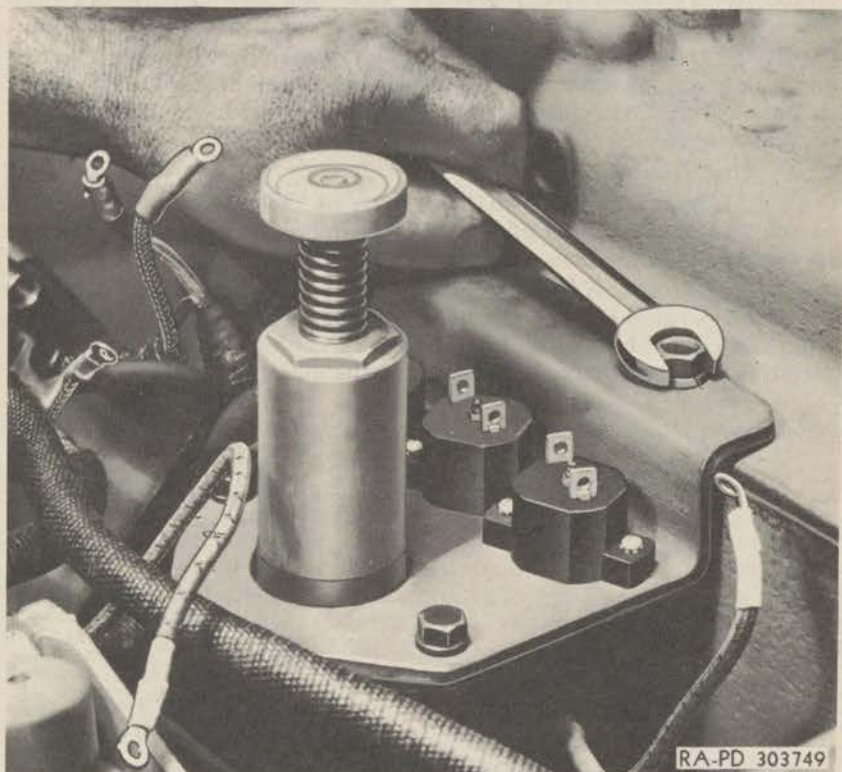

Figure 84—Removing Series Parallel Switch Bracket Cap Screws
(2) **REMOVE SERIES PARALLEL SWITCH.** Remove the cap screws and lock washers holding the series parallel switch bracket to the transmission cover, and remove the series parallel switch and bracket assembly (fig. 84).